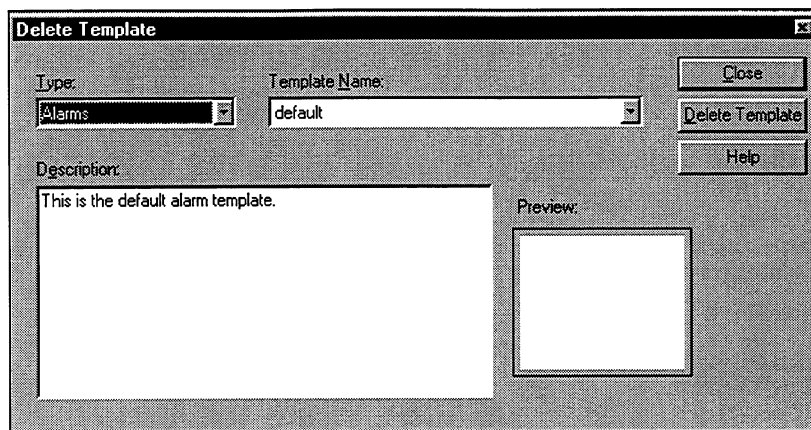

Figure 8-14. Delete Template Dialog Box
1. Select the Delete Template command from the Symbols menu. The Delete Template dialog box opens, as shown in Figure 8-14.